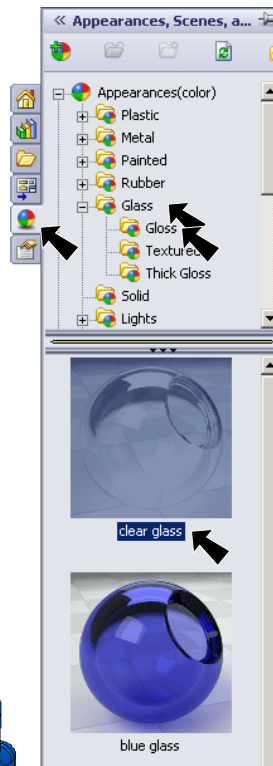

Fig. 94
Step 4. Back over at the Task pane, click the Appearances Task tab , expand **Glass**, click **Gloss** and in the lower pane select **clear glass**, **Fig. 94**.